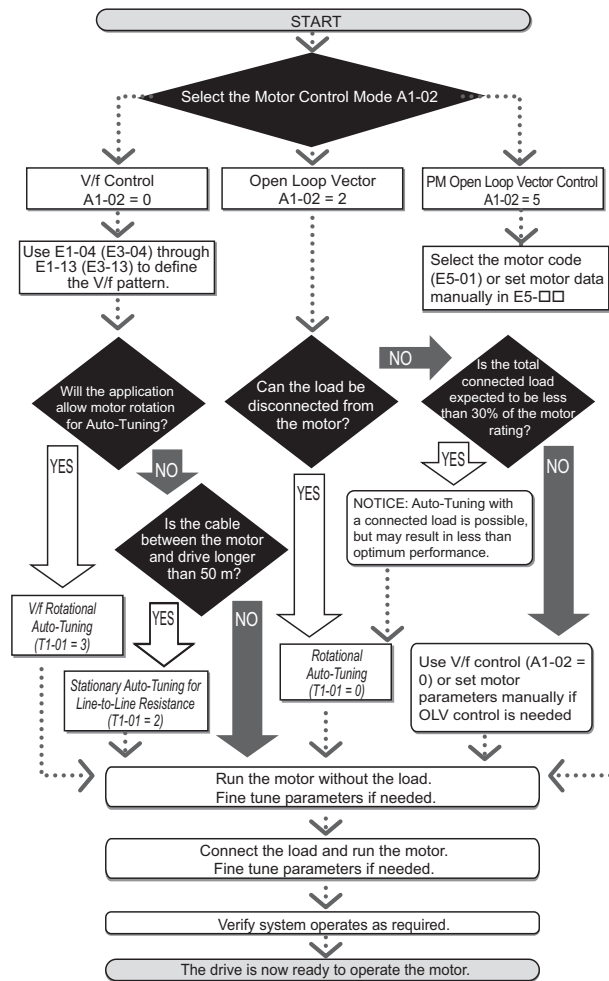

Figure 4.11 Auto-Tuning Selection
2. Determine which type of Auto-Tuning best fits the application requirements following Figure 4.11.